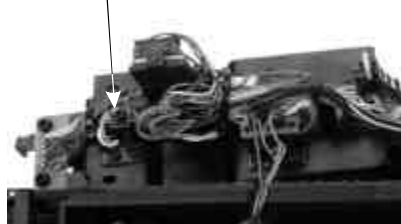

Figure 9
1. Unplug the black connector at the rear of the engine chassis. See fig 9.